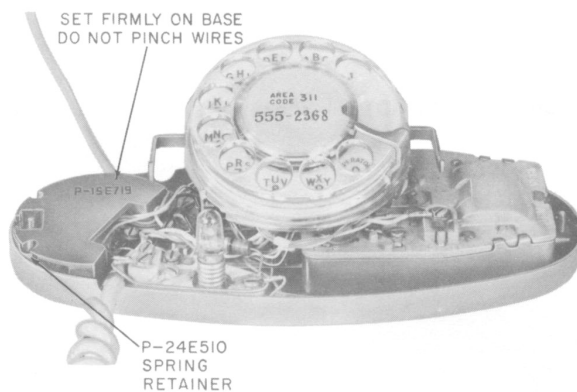

Fig. 9—Location of P-24E510 Spring Retainer and P-15E719 Weight
- (4) Install P-15E719 weight and P-24E510 spring retainer as shown in Fig. 9.
- (5) Replace telephone set housing.